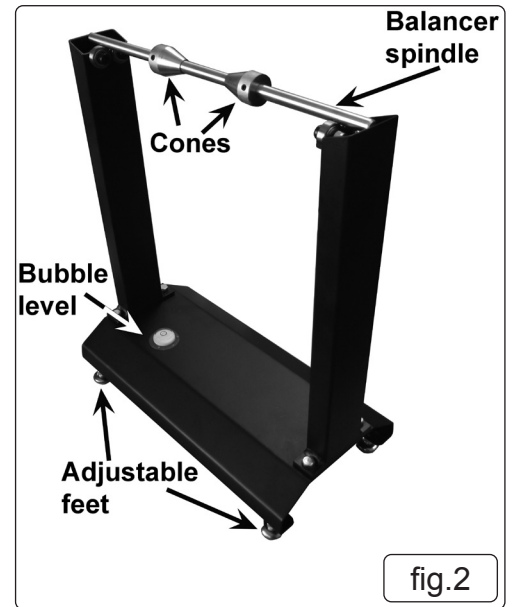

fig.2
- 4.2. Place the bubble indicator over the hole in the base and align the three holes in its flange with the three holes in the base. Secure with the 3 small screws and nuts supplied. See fig.2.